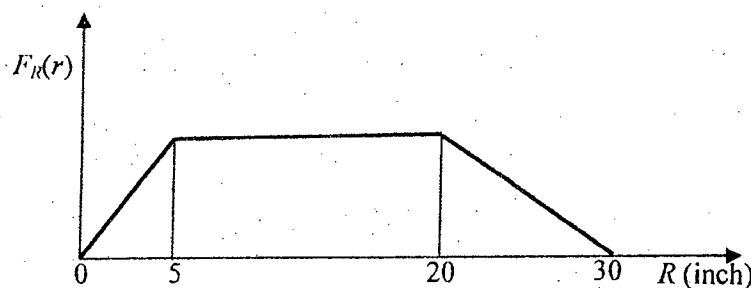

Figure 1: PDF of Annual Rainfall
(b) The PDF of the annual rainfall,  $R$ , of a city is shown in Figure 1 below. (24)